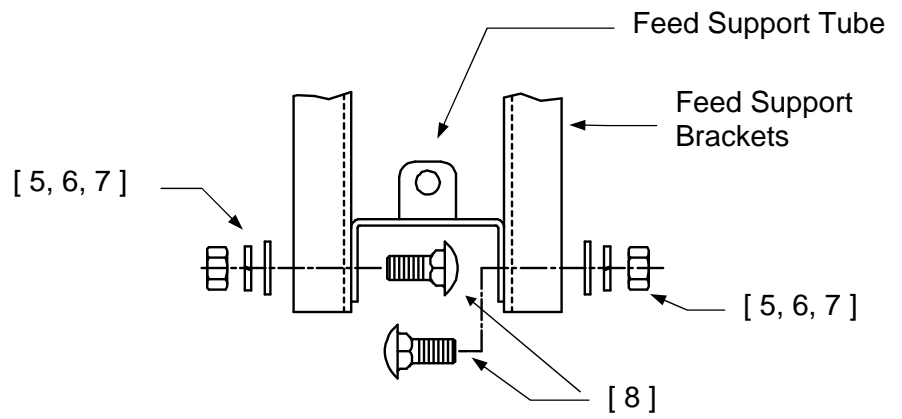

**FIGURE 3**
A). Before attaching the feed support, sight the bottom of the reflector with the reflector support tube, to be sure the reflector is centered. If not, move the reflector left or right along the crossarms. See Figure 3.